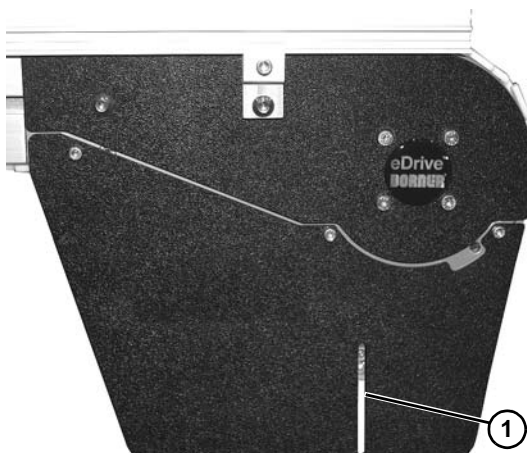

Figure 120
After shortening chain, ensure there is visible slack in chain (while running) at catenary drive tails. If chain is not visible in cover slot (Figure 120, item 1) inspect from end.